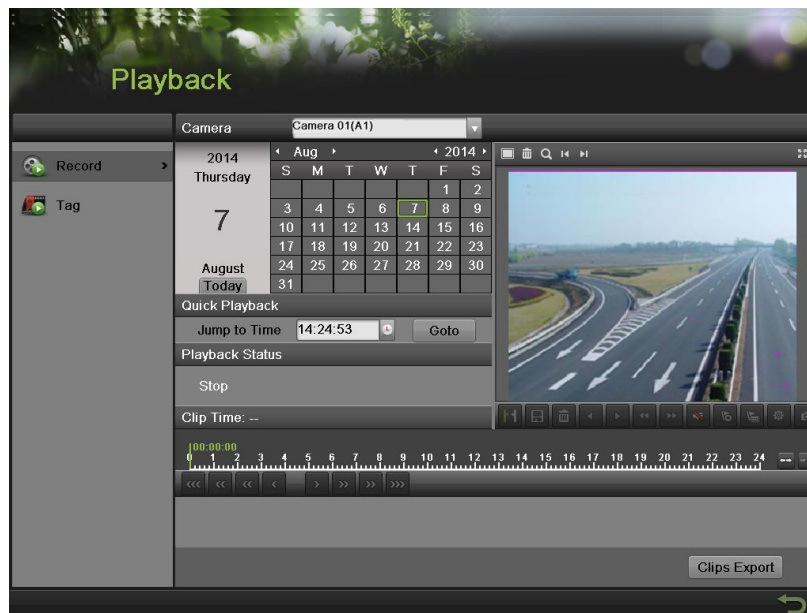

Figure 79 Playback Menu
1. Enter the Playback Interface, shown in Figure 79 by going to Menu > Playback > Record.